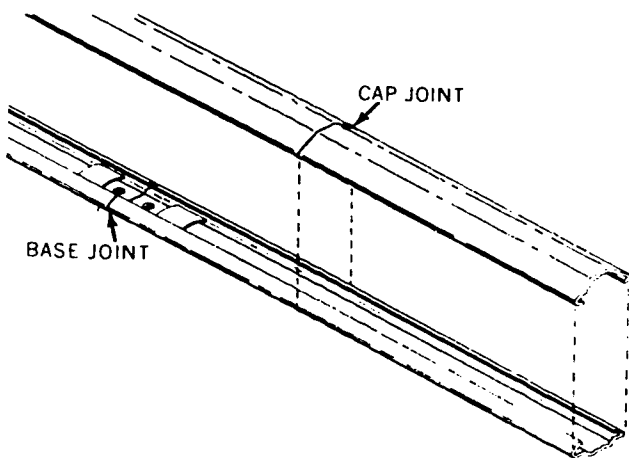

Figure 3-53. Staggered arrangement of duct joints.
a. Run the base of the duct along the desired wire route. Connect the duct to the proper fittings by inserting it in the tongues provided in the bases of the fittings. If the length of the duct run exceeds 5 feet, add additional unit lengths of duct as required. When necessary, cut the duct to proper length with a fine-tooth hacksaw blade and smooth the cut edges with a file. For better rigidity, arrange adjoining lengths of duct so that the joint of the duct caps is separated from that of the duct bases (fig. 3-53).